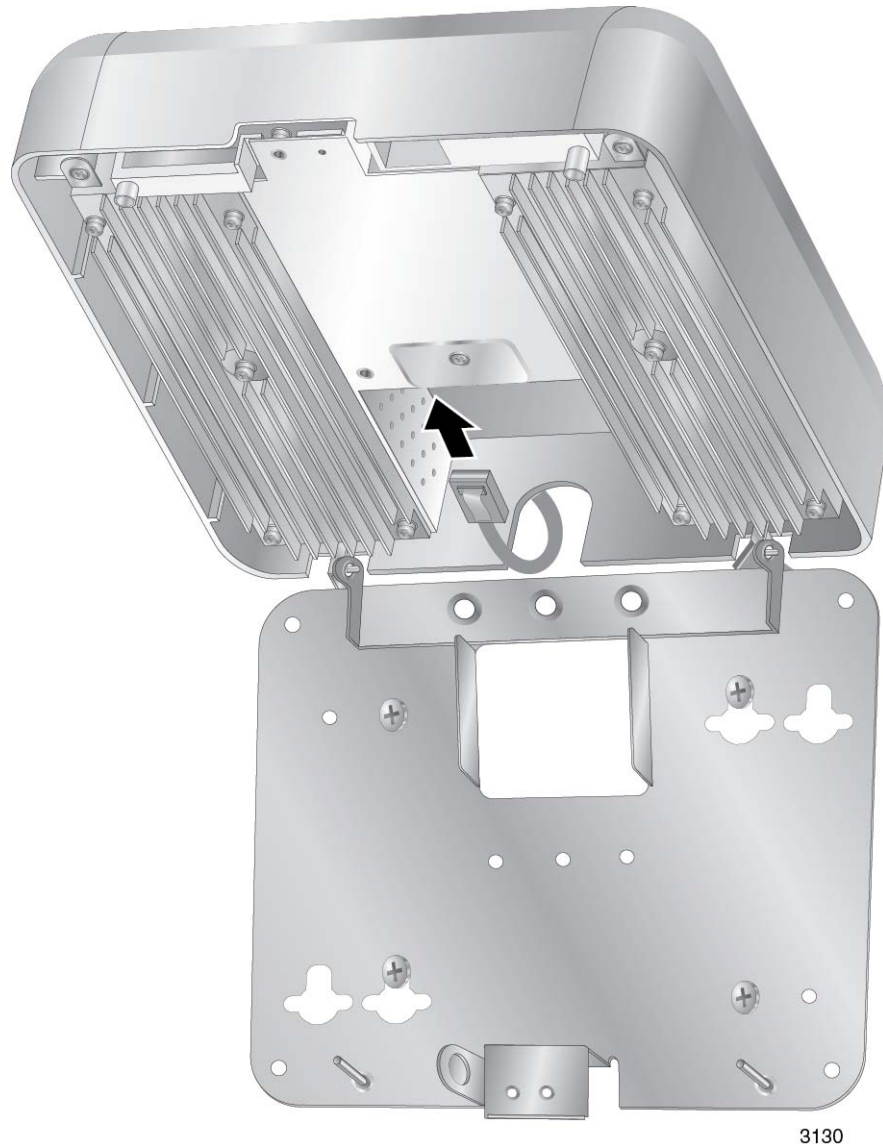
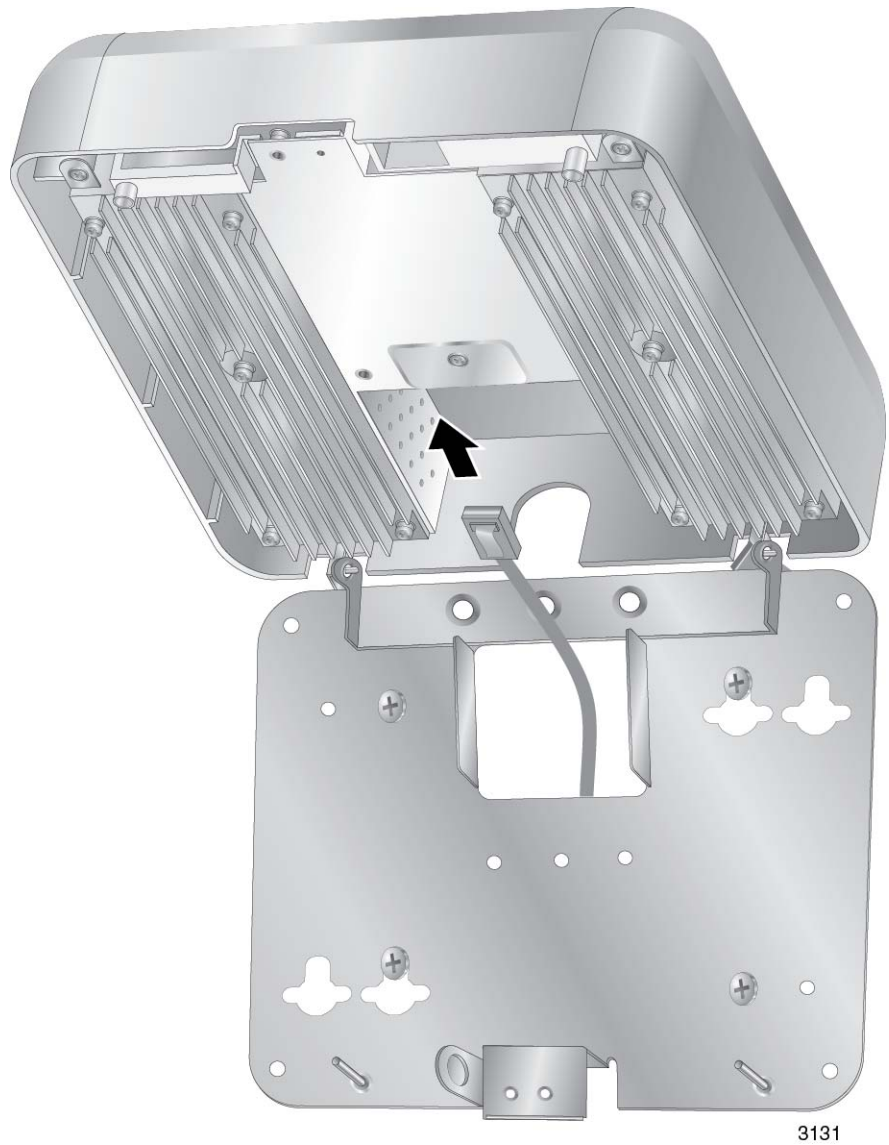

Figure 20. Connecting the Network Cable that is External to the Wall
Figure 21. Attaching the Network Cable through the Wall Opening
2. If the LAN cable is external to the wall or ceiling, route it through the notch in the cover and connect it to the LAN port. Refer to Figure 20 on page 44.
3. If the network cable comes through a wall opening, route the cable either through the notch in the cover, as shown in Figure 20 or through the hole in the bottom panel, as shown in Figure 21 on page 45, and connect it to the LAN port on the access point.